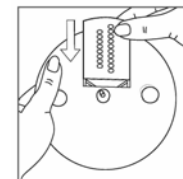

Fig. 9
- Place the blade of your choice on the blade holder. Inserting the longer tab on the side of the blade first. (fig. 9)